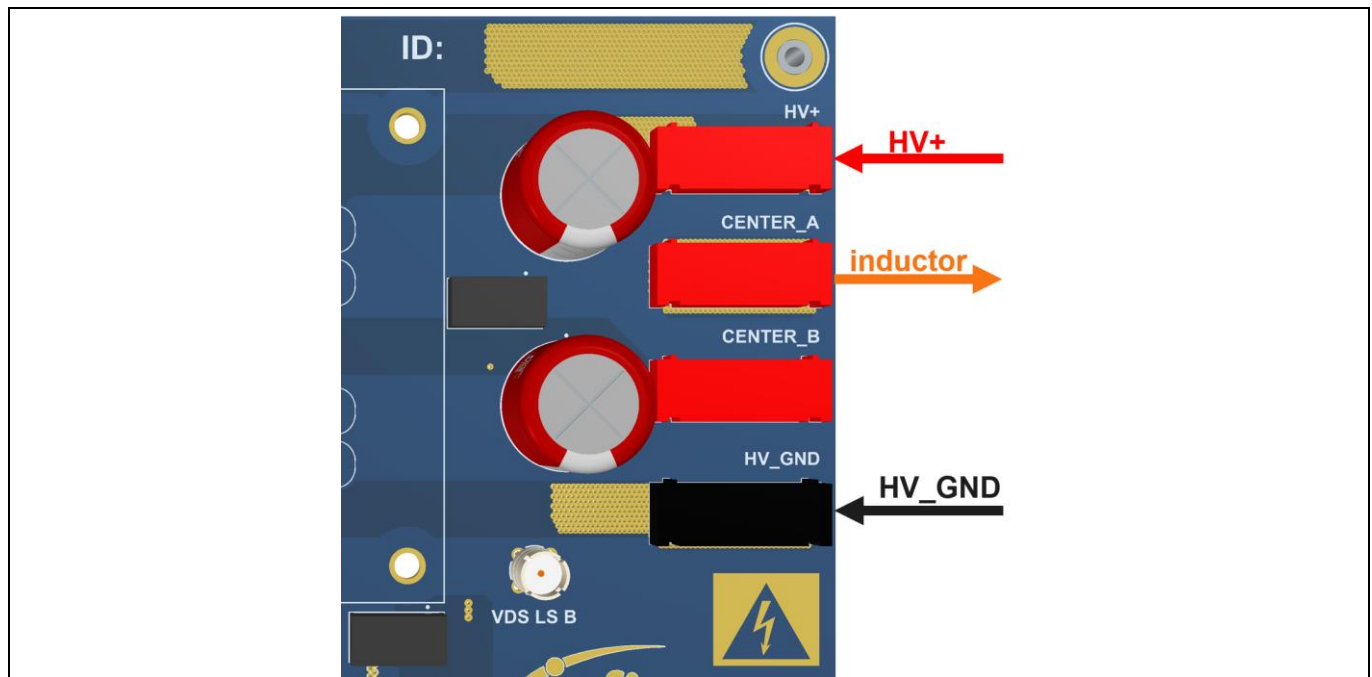

Figure 7 Cabling on HV terminals for single-/double-pulse testing utilizing half-bridge “A”
3. Connect the load inductor and the HV voltage supply to the PCB via the banana jacks as shown in Figure 7